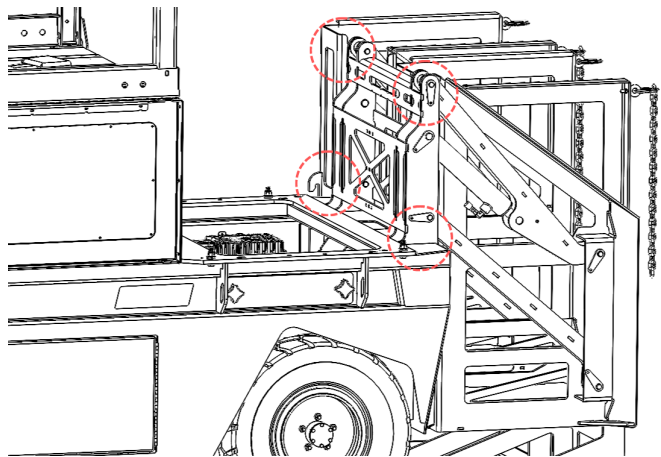

Figure 37. Edges And Corners Of The Bridge Plate Elevator.
- The edges and corners of the bridge plate elevator on both sides (see Figure 37) can be prone to wear and damage. Special attention should be paid to these areas to prevent deformation or cracks.